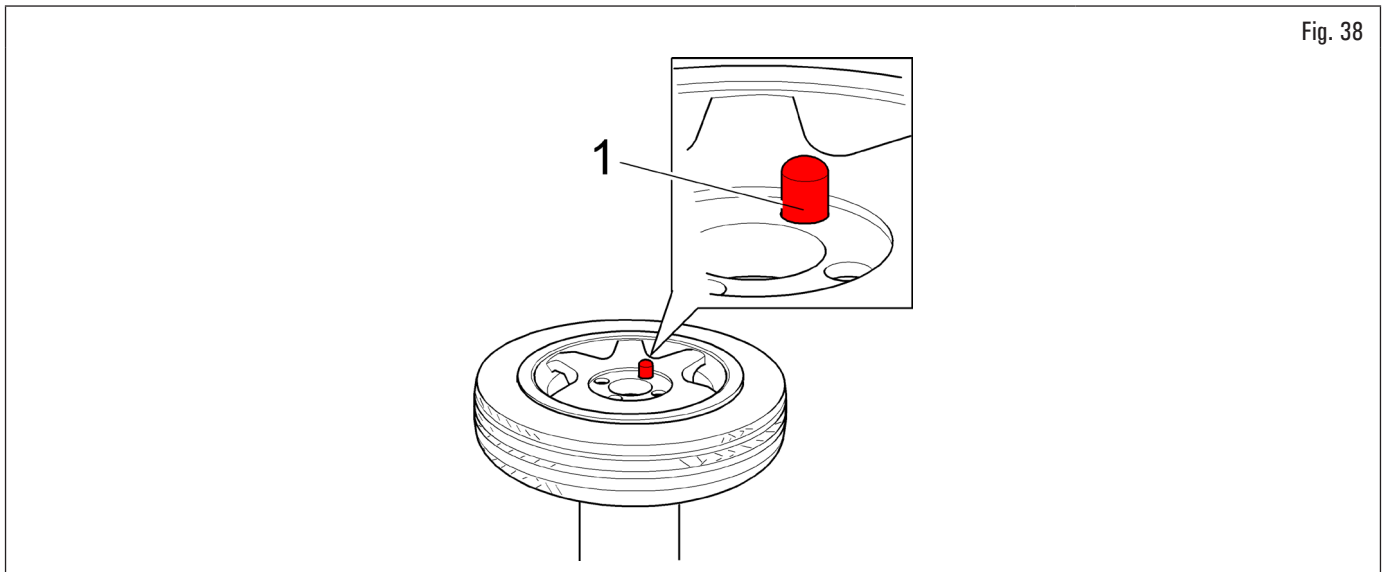

Fig. 38
1. load the wheel with the side lifting device on the rubber plate of the spindle, making sure that the puller pin (Fig. 38 ref. 1) engages in one of the holes on the rim;